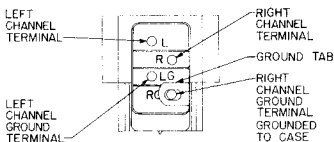

FIGURE 1
CONNECTIONS (see Figure 1): Right "hot" lead (usually red) to "R," right ground (usually green) to "RG." Left "hot" lead (usually white) to "L," left ground (usually blue) to "LG." If metal head is causing ground loop hum, remove the ground tab. The metallic cartridge shield is disconnected from the right channel ground by the removal of the ground tab.
2. Connect leads to cartridge (see Figure 1).